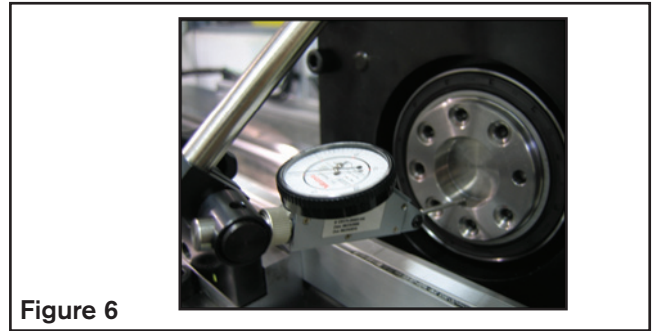

Figure 6
3. Position the contact point of the indicator at bottom dead center of the pilot bore as shown in Figure 6. Rotate slowly for a minimum of one complete turn and note the amount of total variance in one rotation.